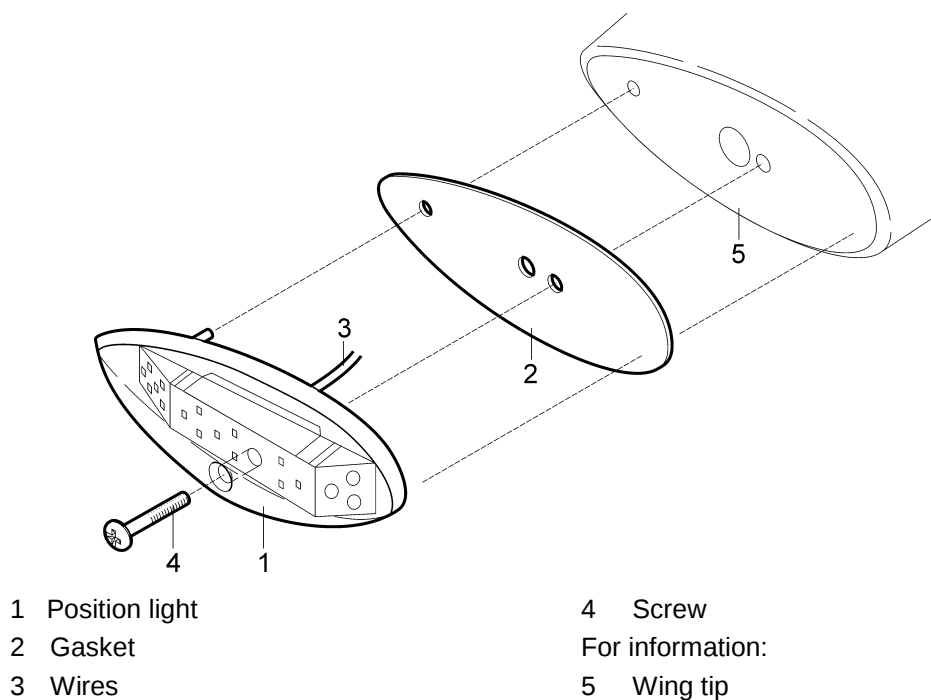

Fig. 11-3: Position light removal / installation
(b) Unscrew the screw (4, Fig. 11-3) and carefully release the light (1).
(b) Connect the strobe/position lights wires (3, Fig. 11-3).
- Pass the wires (3, Fig. 11-3) through the appropriate hole in the gasket (2).
- Connect the position / strobe light wires (3) (see Wiring Manual).
- Set the position light (1) with the gasket (2) to the wing tip (5) and fasten it with screw (4).